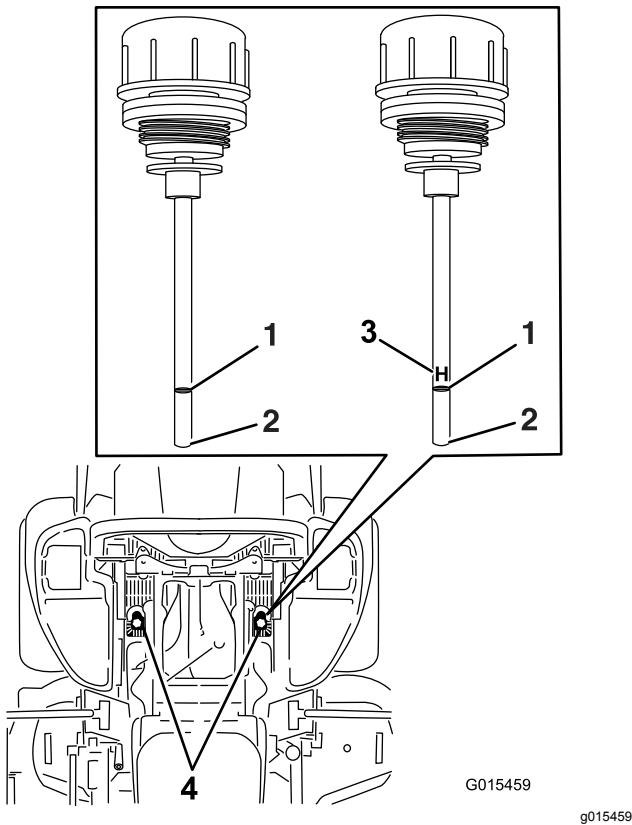

Figure 91
6. Clean the area around the dipsticks of the hydraulic-system reservoirs (Figure 91).
7. Remove one dipstick from the hydraulic reservoir (Figure 91).
9. Remove the dipstick and look at the end (Figure 91). If the oil level is at the add mark, slowly pour only enough oil into the hydraulic reservoir to raise the level to the full or H line.